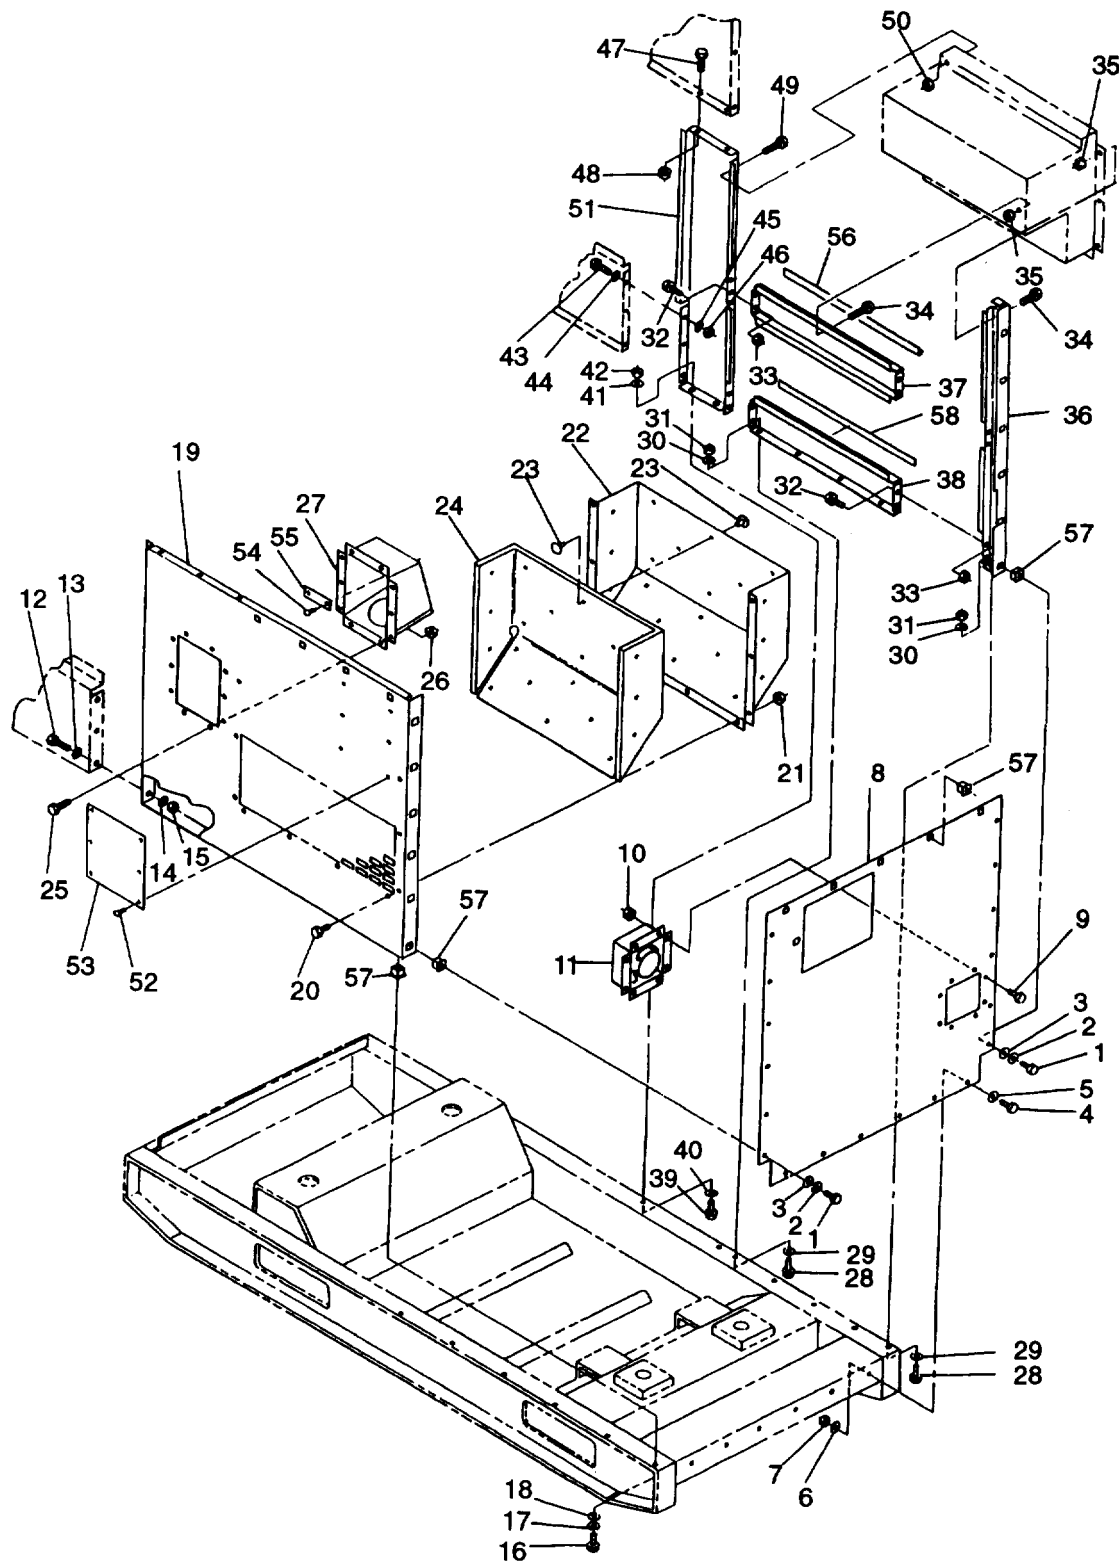

FIGURE 2-9. Generator Set Rear Housing Section
- j. Remove bolts (1 and 4, FIGURE 2-9), flatwashers (3) and (5), lockwashers (2) and (6), nuts (7), and rear panel (8) from generator set.
- k. Remove bolts (9), assembled nuts (1 O), and load cable entrance box (11) from rear panel (8).
- l. Remove bolts (12) and (16), flatwashers (13) and (18), lockwashers (14) and (17), nuts (15), and left side rear panel (19) from generator set.
- m. Remove bolts (20), assembled nuts (21), and baffle (22) from left side rear panel (19).
- n. Remove clip halves (23) and insulation (24) from baffle (22).
- o. Remove bolts (25), assembled nuts (26), and fuel filler neck panel (27) from left side rear panel (19).
- p. Remove bolts (28), (32), and (34); flatwashers (29); lockwashers (30); nuts (31); assembled nuts (33) and (35); corner post (36); and door sills (37) and (38) from generator set.
- q. Remove bolts (39), (43), (47), and (49); flatwashers (40) and (44); lockwashers (41) and (45); nuts (42) and (46); assembled nuts (48) and (50); and right side panel (51) from generator set.
- r. If necessary, drill out rivets (52) and remove plate (53) from left side rear panel (19).
- s. If necessary, drill out rivets (54) and remove plate (55) from fuel filler neck panel (27).
- t. If necessary, remove output box EMI seals (56) from door sill (37), corner post (36), and right side panel (51).
- c. Inspect all cage nuts (57, FIGURE 2-9) for cracking or stripped threads.
- e. Inspect EMI seals (56) for tears, looseness, and deterioration.
- f. Inspect door seals (58) for tears, looseness, and deterioration.
- c. Repaint surfaces in accordance with TM 43-0139. (F) Use applicable directives.
- d. Replace all cracked or stripped cage nuts (57, FIGURE 2-9).
- e. Replace damaged insulation and missing clip halves (23). Refer to Appendix D for fabrication of insulation.
- f. Replace EMI seals (56) that are loose or show any evidence of damage.
- g. Replace damaged door seals (58).